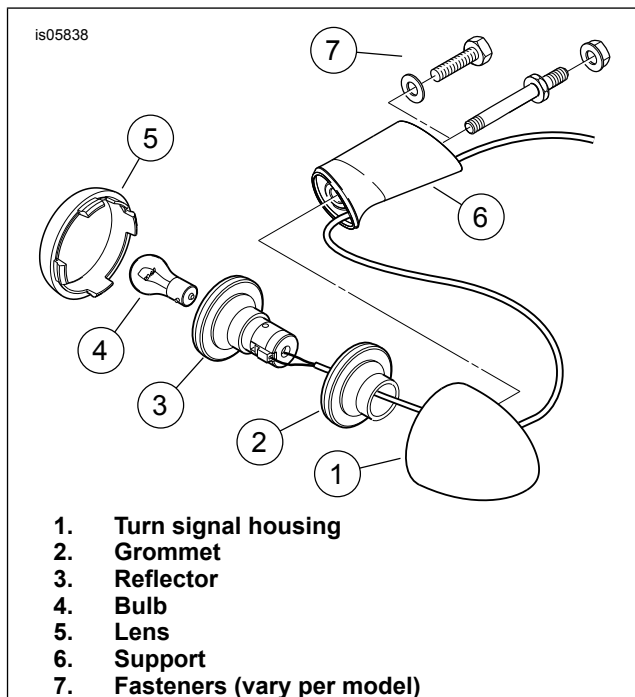

Figure 4. Rear Turn Signal (Typical)
6. See Figure 4. Remove the lens (5) from one of the rear turn signal housings (1).
3. Continue pulling the turn signal wires through the hole (7), while guiding the turn signal reflector (Figure 4, item 3) and grommet (2) into the turn signal housing.
4. Screw the turn signal housing (1) onto the threaded end of the turn signal bar, being careful not to twist the wires. Leave the turn signal housing loosely fastened to the bar.
5. Install the bulb (4) and lens (5). If desired, mark the new end of the turn signal wire lead "right" or "left" as appropriate. The right turn signal has black (BK) and brown (BN) wires. The left turn signal has black (BK) and violet (V) wires.